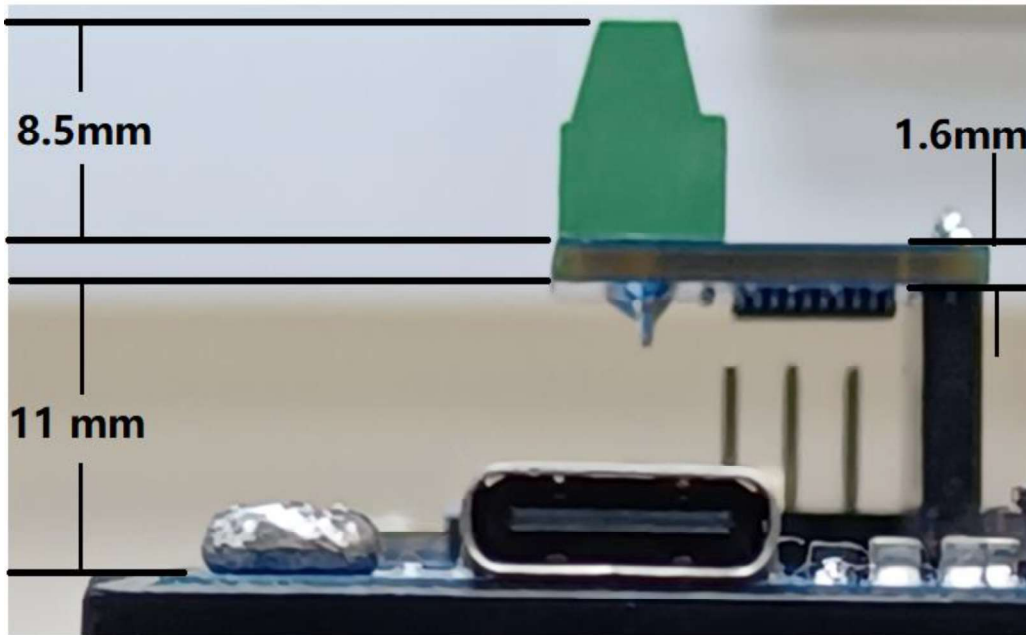

Figure 20 - Mating height between IDM2040-43A and IDM-RS232
- Connect the board to your computer and in Thonny go to Tools>Options and click on the interpreter tab. From the interpreter dropdown list select MicroPython (Raspberry Pi PICO). Choose port "USB Serial Device (COMX)". Figure 20 shows the Micropython with Thonny in ready status.